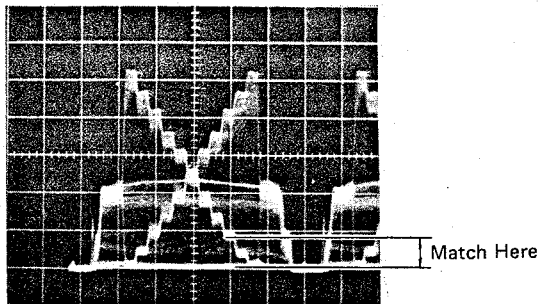

Fig. 6-4-27
- Next, adjust RED PEDESTAL VR305 so that the gray scale's 0~2nd step of R signal matches that of Y_L signal. (Fig. 6-4-27)